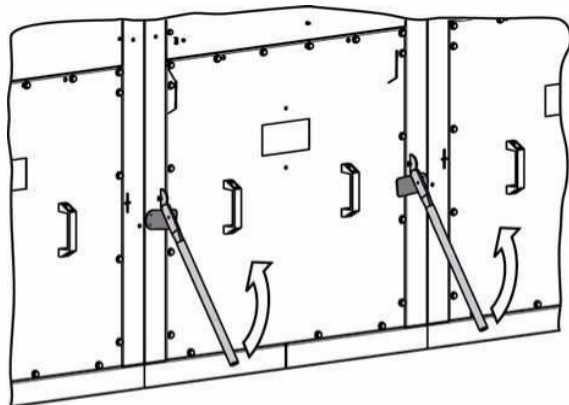

Fig72. Operation directions of two levers to disconnect the withdrawable VT
- ⇒ Move two operating levers (pos.nr. ④ in fig71) at the same time as shown in fig72.
- ⇒ Insert again two operating layers into the hole as done in fig72.